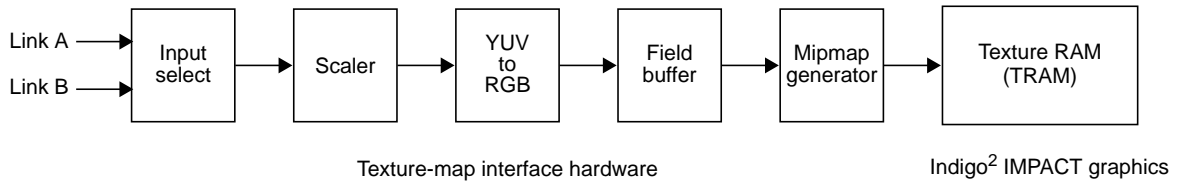

Figure 9-1 Video Texture-Mapping Hardware Configuration Block Diagram
Figure 9-1 diagrams the hardware configuration that supports the texture node.
1. The call to `glCopyTexSubImage2DEXT()` occurs when video field n is being sent into the texture-map interface input select hardware (see Figure 9-1).